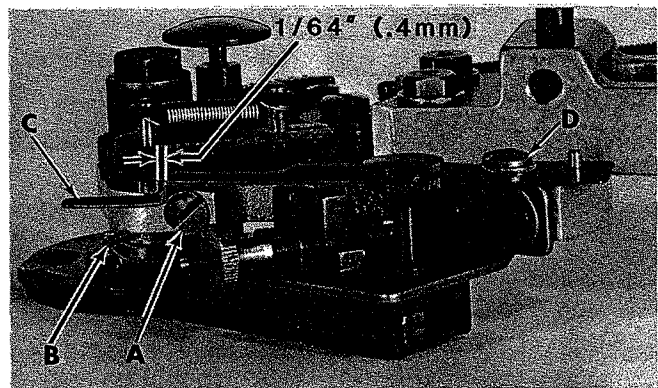

Fig. 43
Loosen screw (A, Fig. 43) on right side of clamp and rotate the cam with its pin (B) to make this adjustment.
Engage machine into RUN POSITION. The escapement lever release spring (C, Fig. 43) should be positioned front to rear so that there is 1/64 inch (0.4 mm) between the stop shoulder of the spring and the pin.
Loosen screw (D, Fig. 43) and move spring (C) to obtain proper dimension to pin. Tighten screw (D).